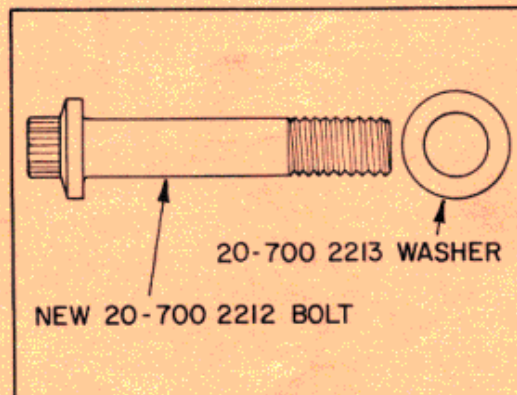

Fig. 3 12 Point Head Bolt
2. Use 12 new 20-700 2212 12 Point Rod Bolts and 12 new 20-700 2213 Hardened Washers when reassembling engine. (Fig. 3.). These parts are designed to provide proper fit with either a non-chamfered cap or a cap with improper chamfer machining.